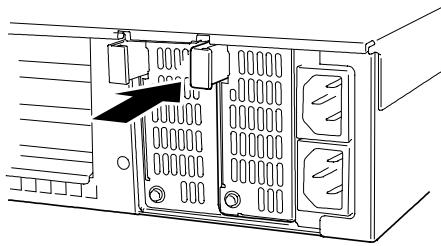

Figure 4-67. Locking the Power Supply
7. Firmly push the handle. The power supply unit is locked when a "click" is heard. See Figure 4-67.